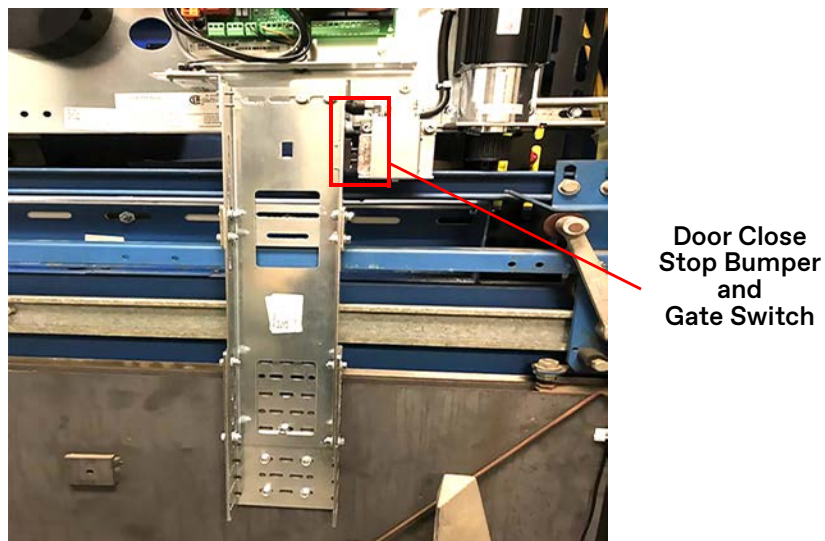

Figure 5 - Install the Drive Arm
5. Install the drive arm. See Figure 5.